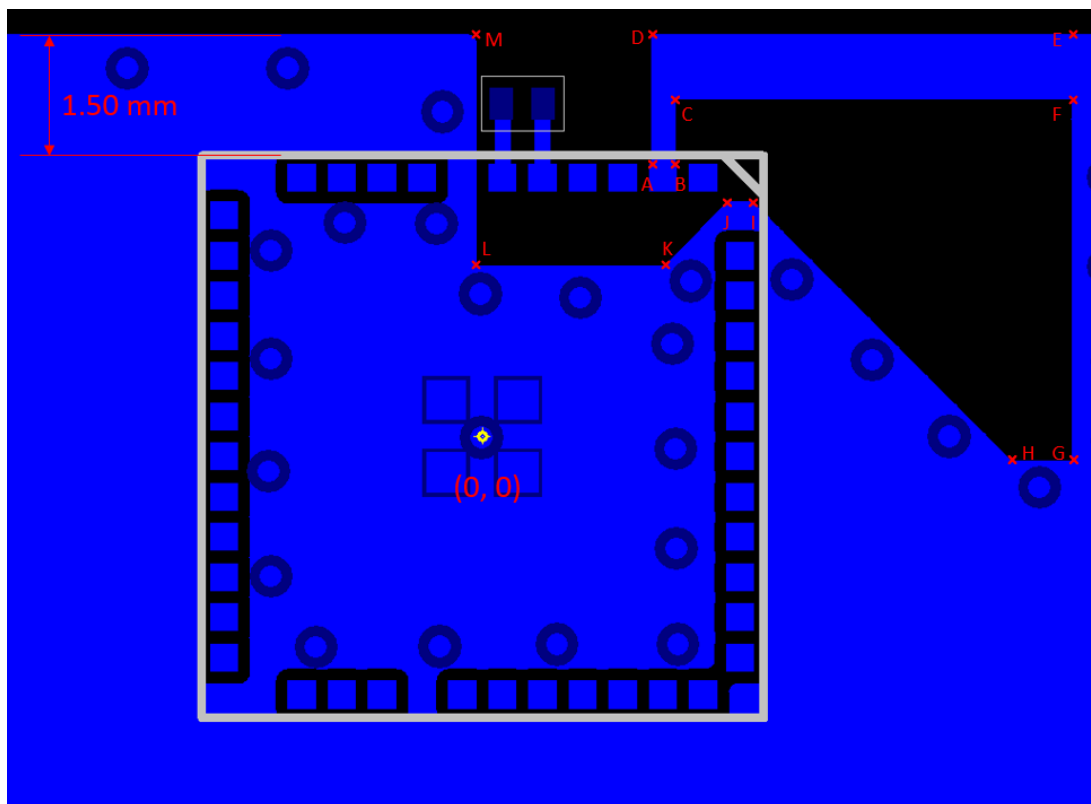

Figure 7.2. TOP Layer Antenna Layout With Coordinates
- Copy the exact design from Figure 7.2 on page 38 with the values for coordinates A to L given in Table 7.1 Antenna Polygon Coordinates, Referenced to Center of BGM240S on page 38.